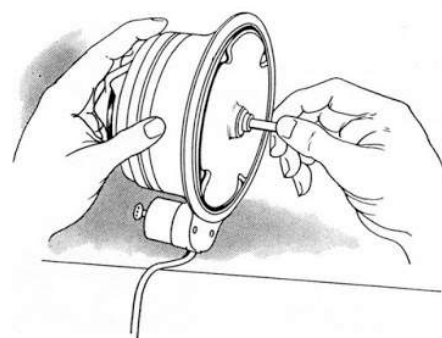

FIG. 65—Testing for end play and side play
10. Grasp the lower end of the armature shaft and test for end and side play. There should be no side play but there should be about 1/64 inch end play. See Figure 65.